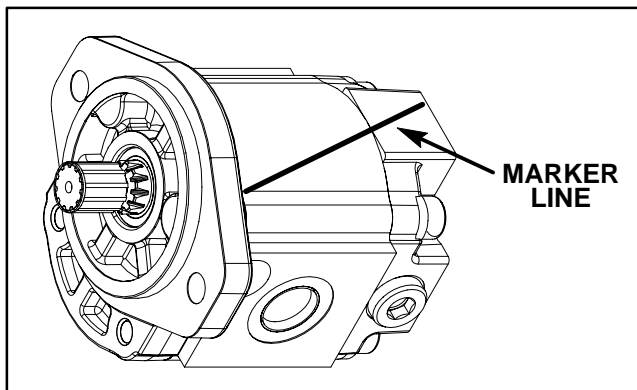

Figure 75
2. Use a marker to make a **diagonal** line across the front flange, body and rear cover for assembly purposes (Fig. 75).